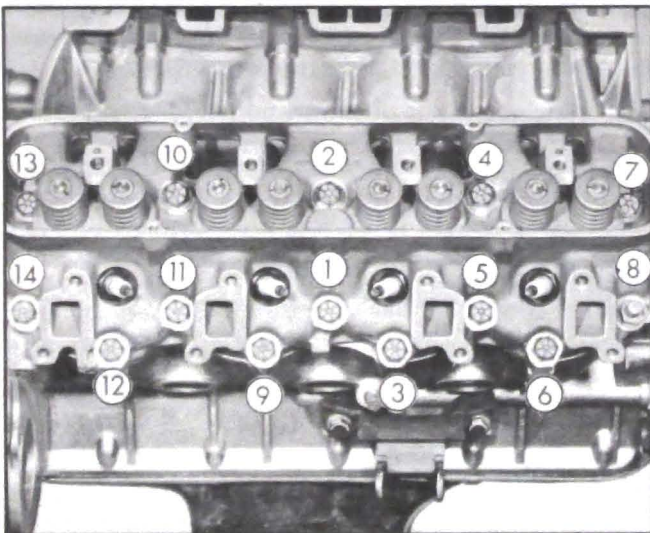

Figure 2-24—Cylinder Head Bolt Tightening Sequence (Right Shown)
5. Tighten the head bolts a little at a time about three times around in the sequence shown in Figure 2-24 then torque the bolts in the same sequence to 50-55 ft. lbs. torque.